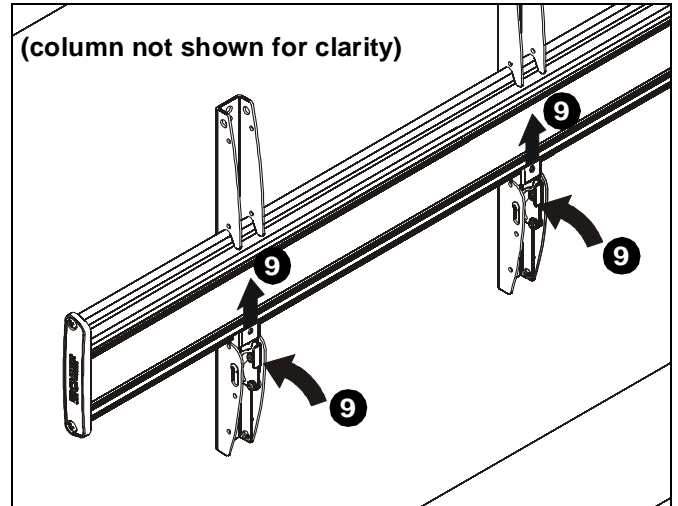

Figure 10
9. Move latches on interface uprights to the "closed" position to secure display to head assembly. (See Figure 10)